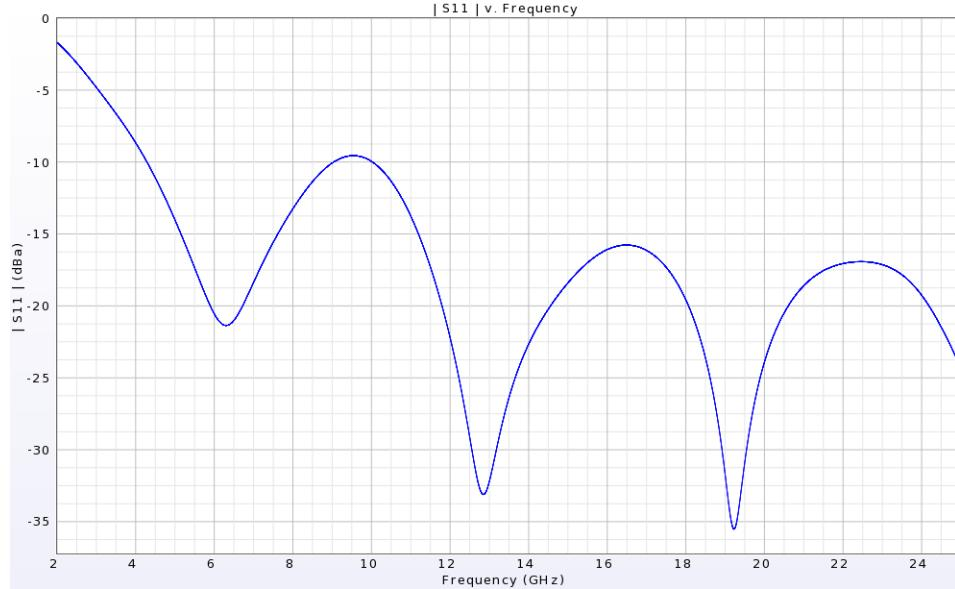

Figure 2.11: S Parameters for the Bow Tie with a  $300\Omega$  Feed
- Double-clicking on a line containing a set of results will cause XFdtd to perform what it considers to be the action most likely desired by the user for the given result type. Additional choices are usually available by right-clicking on the result instead. In this case the default action is what we want, so double-click on the line containing Frequency-domain data S Parameter, as indicated in the figure. This should bring up a plot of S Parameters over the frequency range of interest, as shown in Figure 2.11.